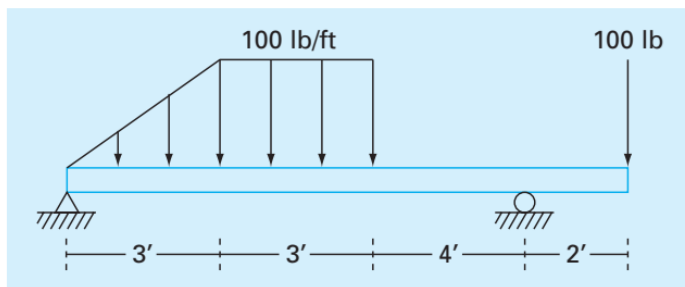

FIGURE P5.9
5.9 A beam is loaded as shown in Fig. P5.9. Use the bisection method to solve for the position inside the beam where there is no moment.